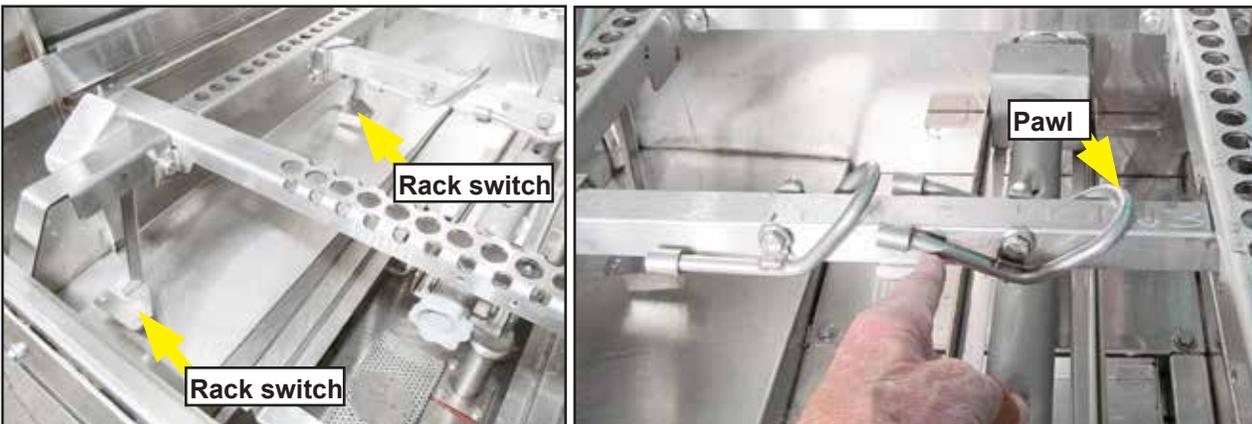

Fig. 79 -
- 1 Make sure the rack switch and idle pump switch, and conveyor pawls move freely, Fig.79.